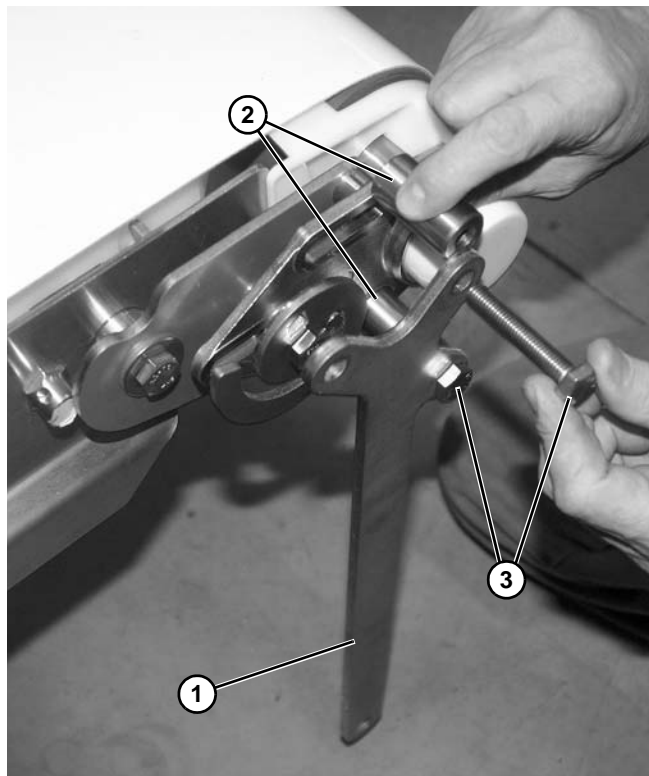

Figure 52
2. Position handle (**Figure 52, item 1**) in one of the four positions available. Attach handle with two spacers (**Figure 52, item 2**) and screws (**Figure 52, item 3**).